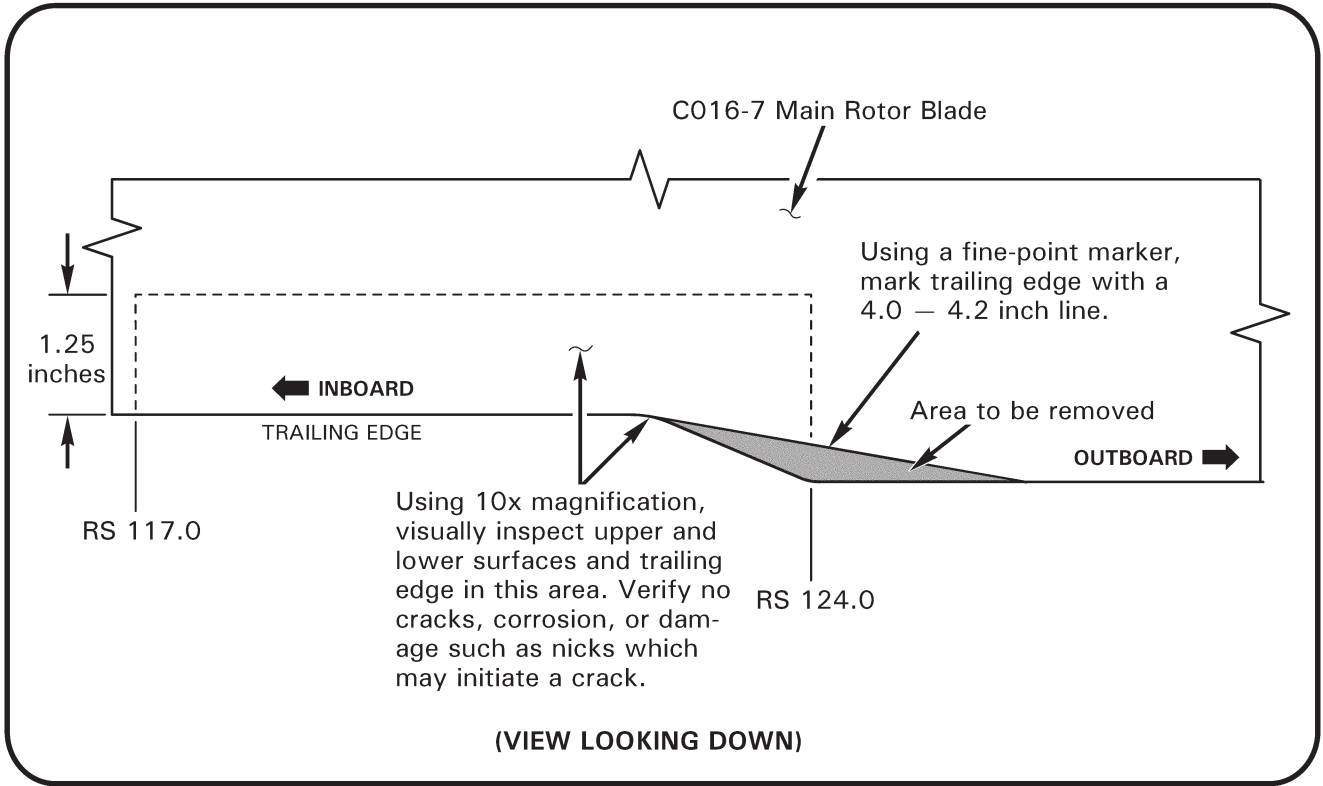

FIGURE 1
3. Refer to Figure 1. Clean blade in area shown in figure. Using 10x magnification and a bright light, visually inspect upper and lower blade surfaces and trailing edge in area indicated. Verify no cracks, corrosion, or damage such as nicks which may initiate a crack. If any of the preceding are found, remove blade from service and contact RHC Technical Support.
4. Using a fine-point marker, mark a line at transition to increased chord trailing edge as shown in Figure 1.